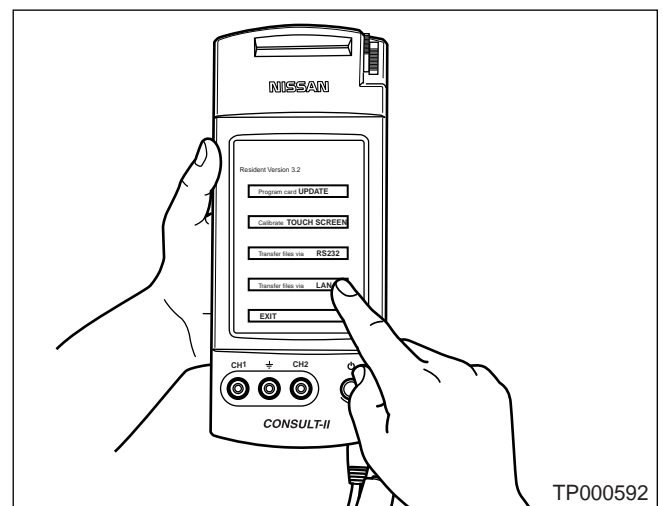

Figure 7
9. Select **Transfer files via LAN** (see Figure 7).